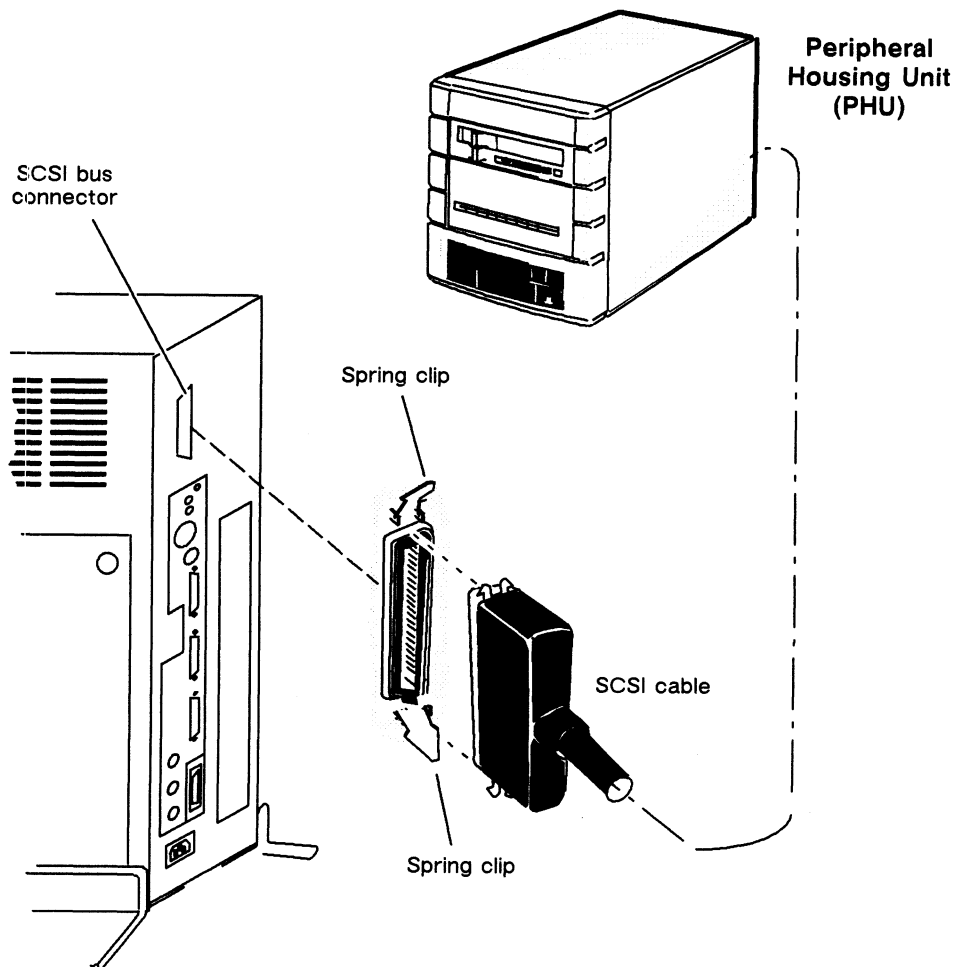

Figure 2-7 Connecting the External SCSI Bus Cable to the Computer Unit Connector
4. Plug the other end of the SCSI bus cable into the computer-unit rear-panel SCSI-bus connector, as shown in Figure 2-7. Gently squeeze the two spring clips together until the cable is firmly attached to the SCSI bus connector.